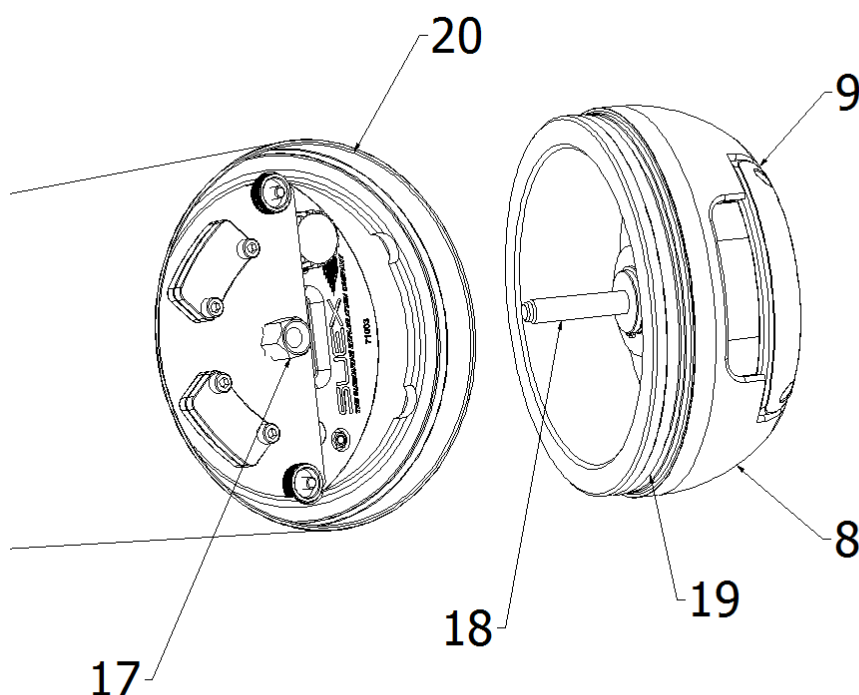

Figure 6
Put the ADV in a vertical position on the shroud. Check carefully that the nosecone O-ring (19), (see fig. 6) is properly seated, clean and properly greased with vaseline oil. Check that the seat of the body (20), is clean. If necessary properly clean it with a suitable cloth to remove any dust or sand. Insert the nosecone(8) matching the screw (18)up with the hole (17). Finger-fasten the knob (9) clockwise until it closes completely.